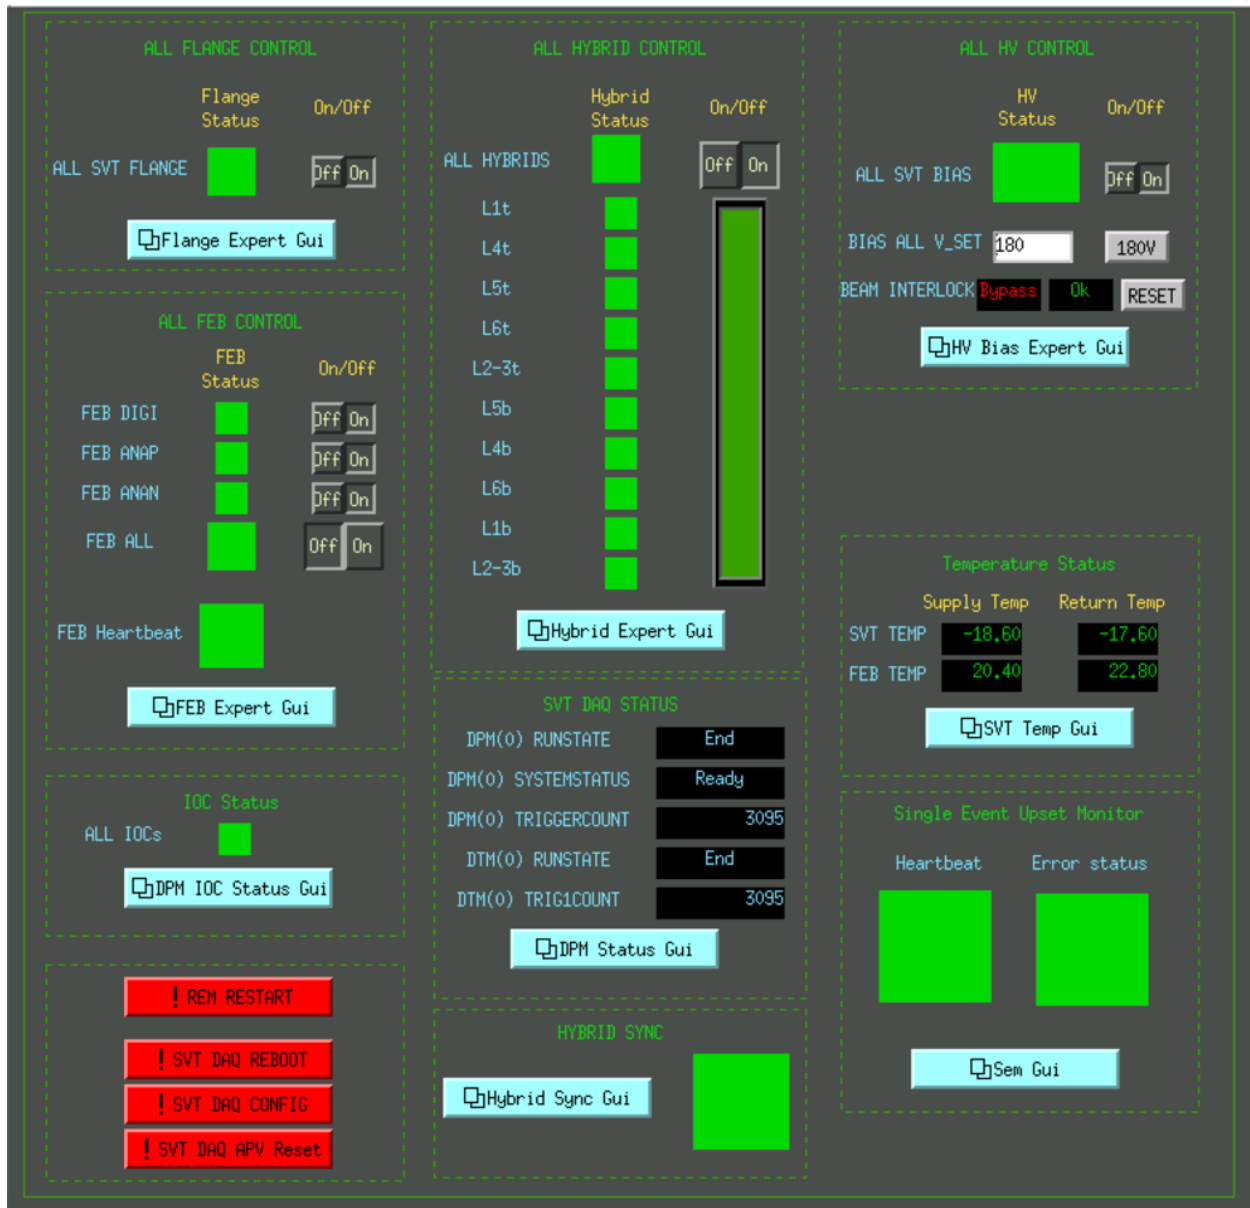

Figure 3.1: SVT summary GUI.
The SVT sensor bias (HV) and the low voltage (LV) needed to control and read out the detector are essentially independent. However, the various components powered by the LV supplies; the Flanges, the FEBs and the Hybrids; depend upon one another, so they be powered on in proper order to operate the detector. In particular, the Flanges must be powered to communicate with the FEBs and the FEBs must be powered in order to either power or communicate with the Hybrids. To power ON all of the SVT follow this procedure using the SVT summary GUI, shown in Figure 3.1.